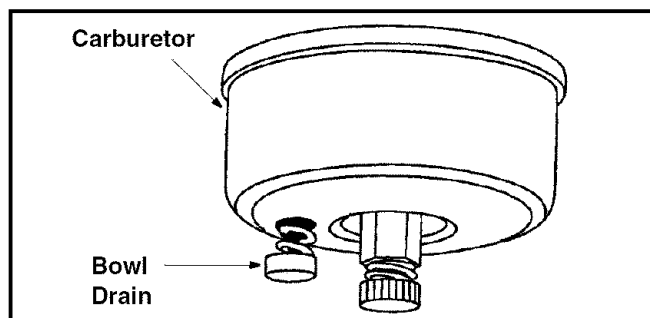

Figure 31
3. Drain carburetor by pressing upward on bowl drain, located below the carburetor cover. See Figure 31.